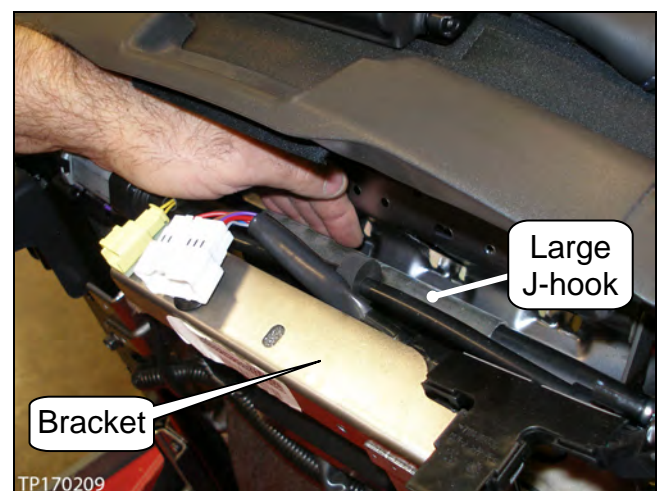

Figure 5
2. Reach in above the bracket, and then unhook the large J-hook to release the bottom seat trim (see Figure 5).